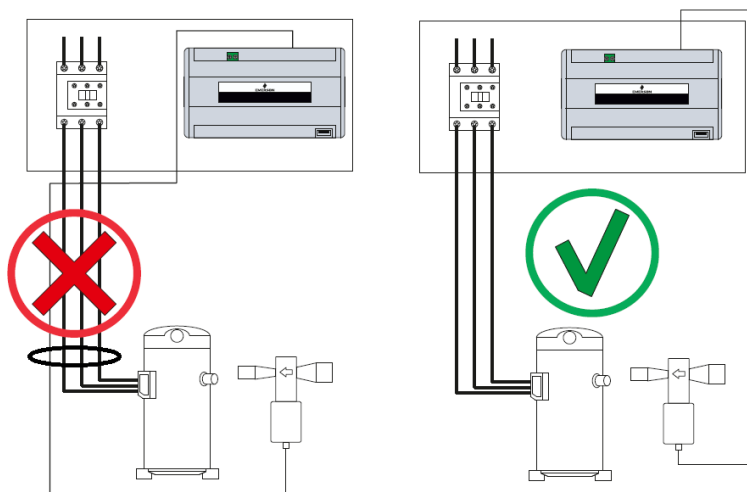

Figure 10
- Separate the signal cables from the power cables. It is recommended to follow the diagram in **Figure 10** below as far as possible.